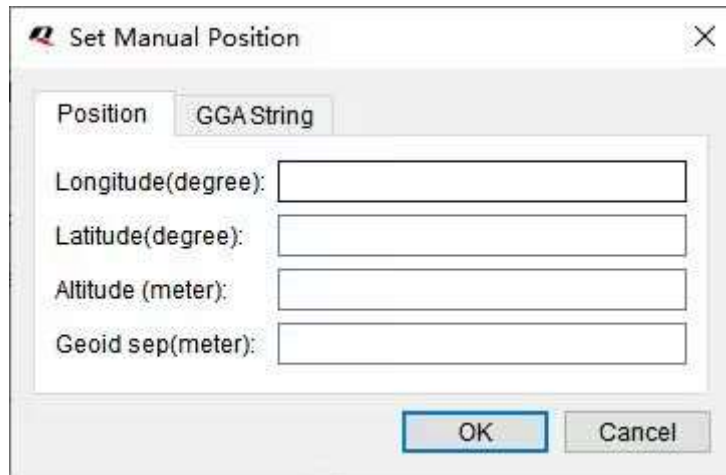

Figure 13: Set Manual Position
- Step 5** Tick the checkbox next to **“Use manual position”** and a window as shown in Figure 13: Set Manual Position pops up for entering the relevant data; otherwise the fixed position of the module will be used.
- Step 3** Tick the checkbox next to “**Use manual position**” and a window as shown in Figure 13: Set Manual Position pops up for entering the relevant data; otherwise the fixed position of the module will be used.